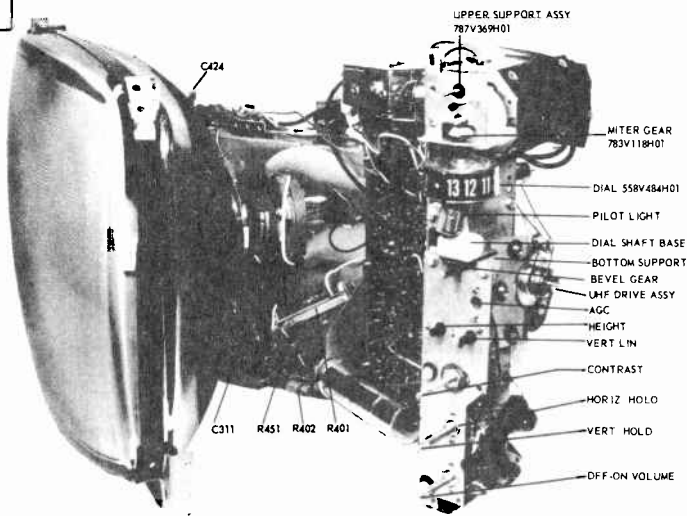

Figure 2 - PC Board Accessibility
2. Remove the 3 screws shown in Figure 2.